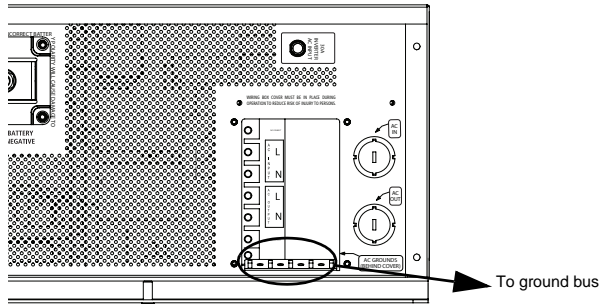

Figure 6 AC Wiring Compartment
AC Wiring Compartment For your reference, the AC wiring compartment is shown in Figure 6 on page 25.
Figure 6 shows the wiring compartment, which contains a grounding bus (used to wire the AC input and output ground wires) and a terminal block (used to wire the AC input and AC output connections).
8. Connect the line and neutral wires to the input terminals (labeled AC Input on the terminal block, Figure 6 on page 25) as follows:
10. Connect the ground wires to a free position on the ground bus, Figure 6 on page 25. If solid ground wire is being used, the wire can be connected directly under the screw heads. If stranded ground wire is being used, ring terminals must also be used.
5. Connect the line and neutral wires to the output terminals (labeled AC Output on the terminal block, Figure 6 on page 25) as follows:
7. Connect the ground wires to a free position on the ground bus, Figure 6 on page 25. If solid ground wire is being used, the wire can be connected directly under the screw heads. If stranded ground wire is being used, ring terminals must also be used.